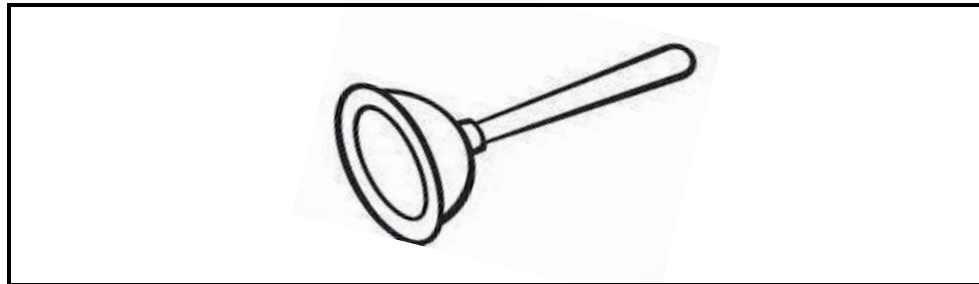

FIGURE 5.10
- 5.10 Answer the following questions with regard to the plumber appliance in FIGURE 5.10.